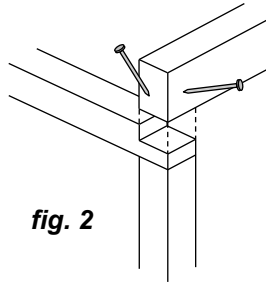

fig. 2
Step 2: Select Back and Front Base Plates 1.980m (Green), Back Top Plate 1.980m (Red) and Front Top Plate (70x45mm). With one End Frame lying on the ground, nail plates to frame, two 75mm nails per join. Ensure Green joins to Green and Red joins to Red. See (**fig. 2**) for nailing detail on Top Front Plate (70x45mm).